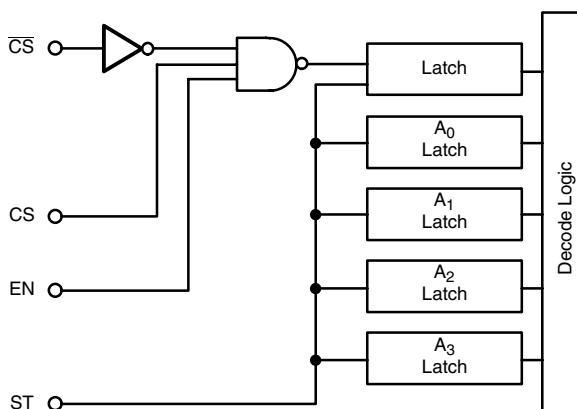

Figure 11.  $\bar{CS}$ , CS, EN, ST Control Logic
All four address inputs have on-chip data latches which are controlled by the Strobe (ST) input. These latches are transparent when Strobe is high but they maintain the chosen address when Strobe goes low. To facilitate easy microprocessor control in large matrices a choice of three independent logic inputs (EN, CS and  $\bar{CS}$ ) are provided on chip. These inputs are gated together (see Figure 11) and only when  $EN = CS = 1$  and  $\bar{CS} = 0$  can an output switch be selected. This necessary logic condition is then latched-in when Strobe (ST) goes low.